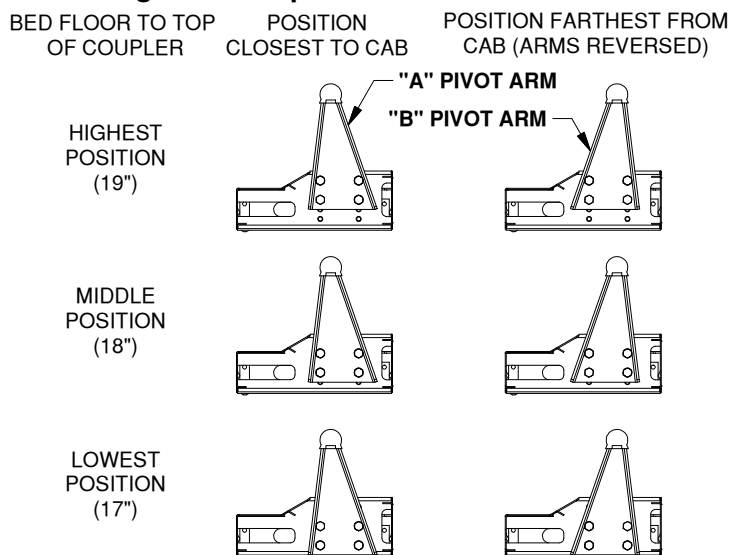

FIGURE C1: Cut away view of slider carriage arm positions.
1. Mount the pivot arms using one of the six different positions illustrated in figures C1 & C2. These six positions allow flexibility in coupler height and distance from the cab. Choose a location so that your trailer will be as level as possible and have adequate turning clearance while in the towing position (with the slider in the forward position). **See warnings after step 2.**